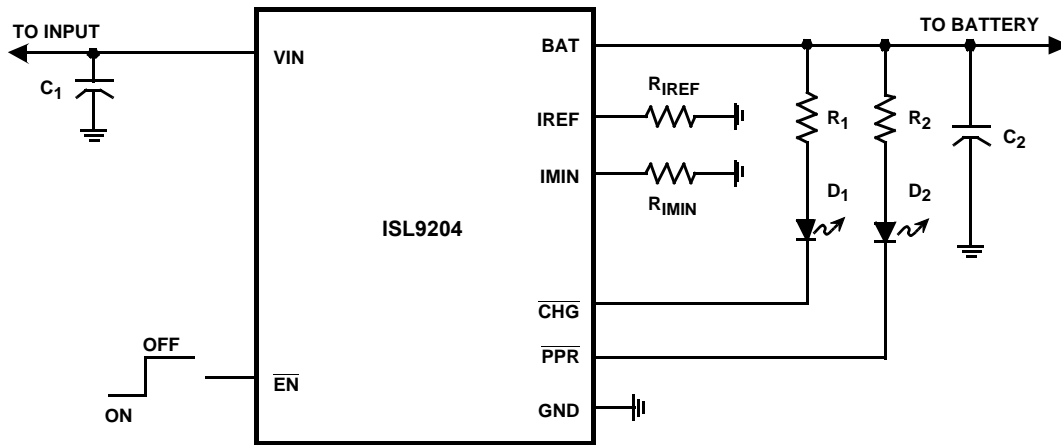
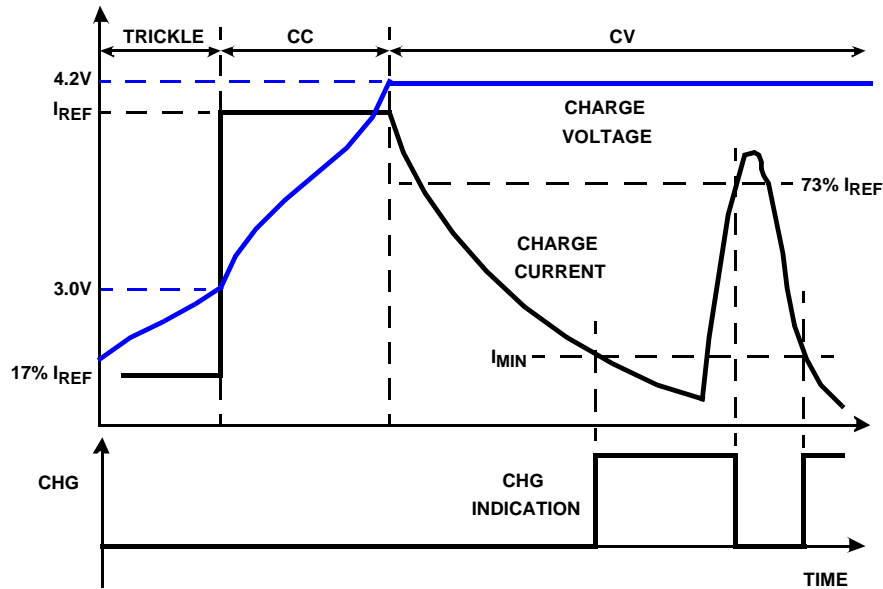

FIGURE 9. TYPICAL APPLICATION CIRCUIT INTERFACING TO INDICATION LEADS
FIGURE 12. TYPICAL CHARGE PROFILE
TABLE 1. COMPONENT DESCRIPTION FOR FIGURE 9
The ISL9204 charges a Li-ion battery with a constant current (CC) or a constant voltage (CV). The constant current I_{REF} is set with the external resistor R_{IREF} (see Figure 9) and the constant voltage is fixed at 4.2V. If the battery voltage is below a typical 2.8V trickle-charge threshold, the ISL9204 charges the battery with a trickle current until the battery voltage rises above the trickle charge threshold. When the battery voltage reaches 4.2V, the charger enters a CV mode and regulates the battery voltage at 4.2V to fully charge the battery without the risk of over charge. Upon reaching an end-of-charge (EOC) current, the charger indicates the charge completion with the CHG pin, but the charger continues to output the 4.2V voltage. Figure 12 shows the typical charge profile and the EOC/reset event.
The EOC current level I_{MIN} is programmable with the external resistor R_{IMIN} (see Figure 9). The CHG signal turns to LOW when the trickle charge starts and rises to HIGH at the EOC. After the EOC is reached, the charge current has to rise to typically 73% I_{REF} for the CHG signal to turn on again, as shown in Figure 12. The current surge after EOC can be caused by a load connected to the battery.
The PPR pin can be used to drive an LED (see Figure 9) or to interface with a microprocessor.